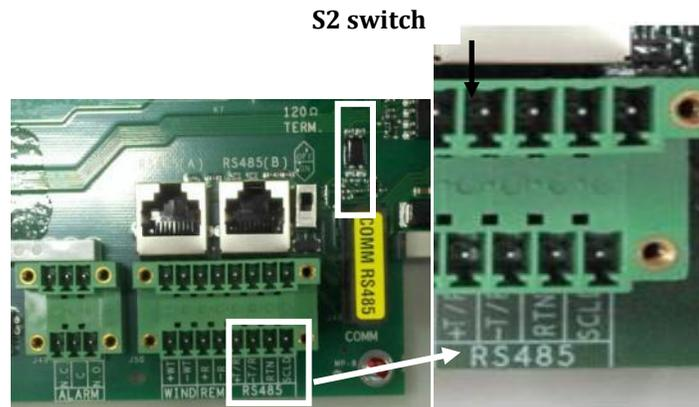

Figure 2.09 - Standard RS485 connection
- Connect alarm cable to the mating connector (in hardware kit) and plug connector into position shown in Figure 2.09.
- b. If running standard cable locate the mating connector (hardware bag) and connect three RS-485 leads as shown in Figure 2.09. Plug connector into position shown; second connector is to facilitate daisy chaining.